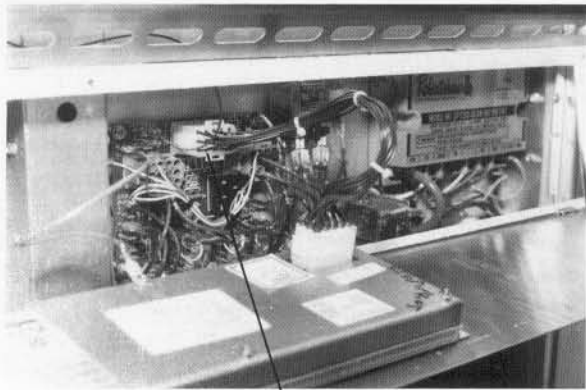

Figure 23
- Unplug 12-pin connector from interface board (Fig. 23).